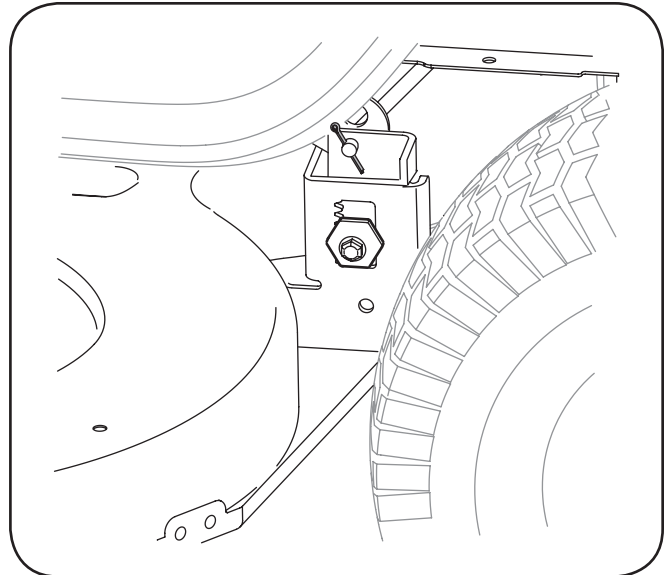

Figure 7-2
5. Looking at the cutting deck from the left side of the tractor, locate the bow-tie cotter pin that secures the deck support rod on the rear left side of the deck. See Fig. 7-2. Remove the cotter pin that secures the deck support rod, and carefully remove the deck support from the deck lift arm.